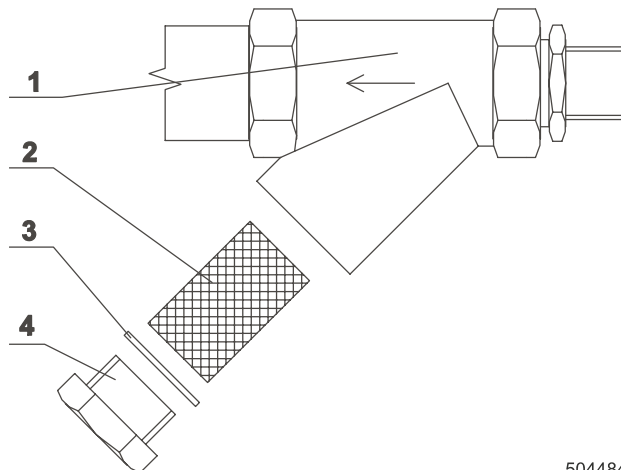

Fig. 5.12.A Screen of steam filter
2. Unscrew the filter plug (fig.5.12.A, pos.4) and remove the filter screen (2).
4. Insert the filter screen (2) into the filter body (1) and tighten the plug (4).